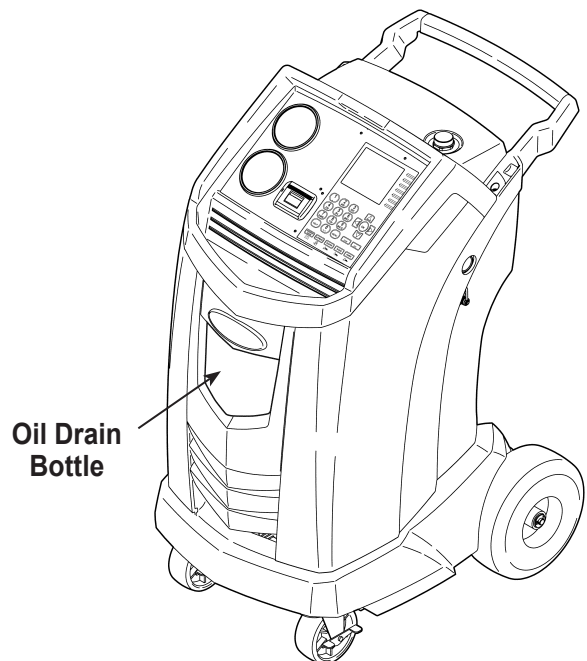

Figure 10
1. Verify the oil drain bottle on the front of the machine is empty. See Figure 10. Recover refrigerant as outlined in this manual under *Recover Refrigerant from a Vehicle*.